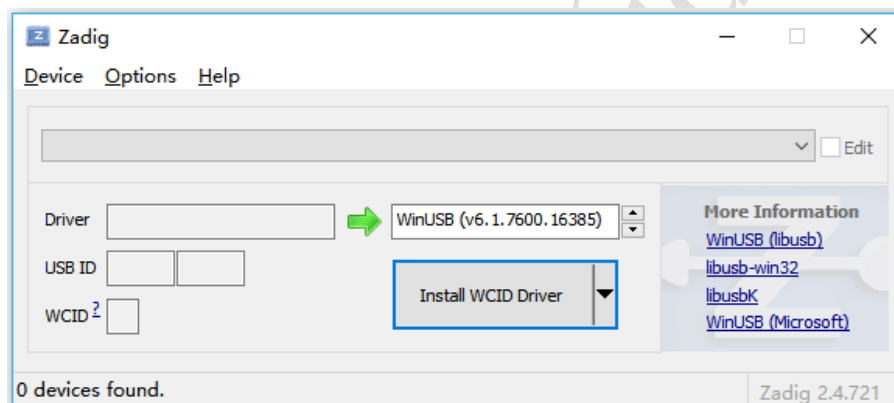

Fig. 1-1
- (1) Connect the CeleX-5 Sensor to the PC via the USB cable, double-click “**zadig-2.4.exe**” to pop up the interface shown in Fig. 1-1.